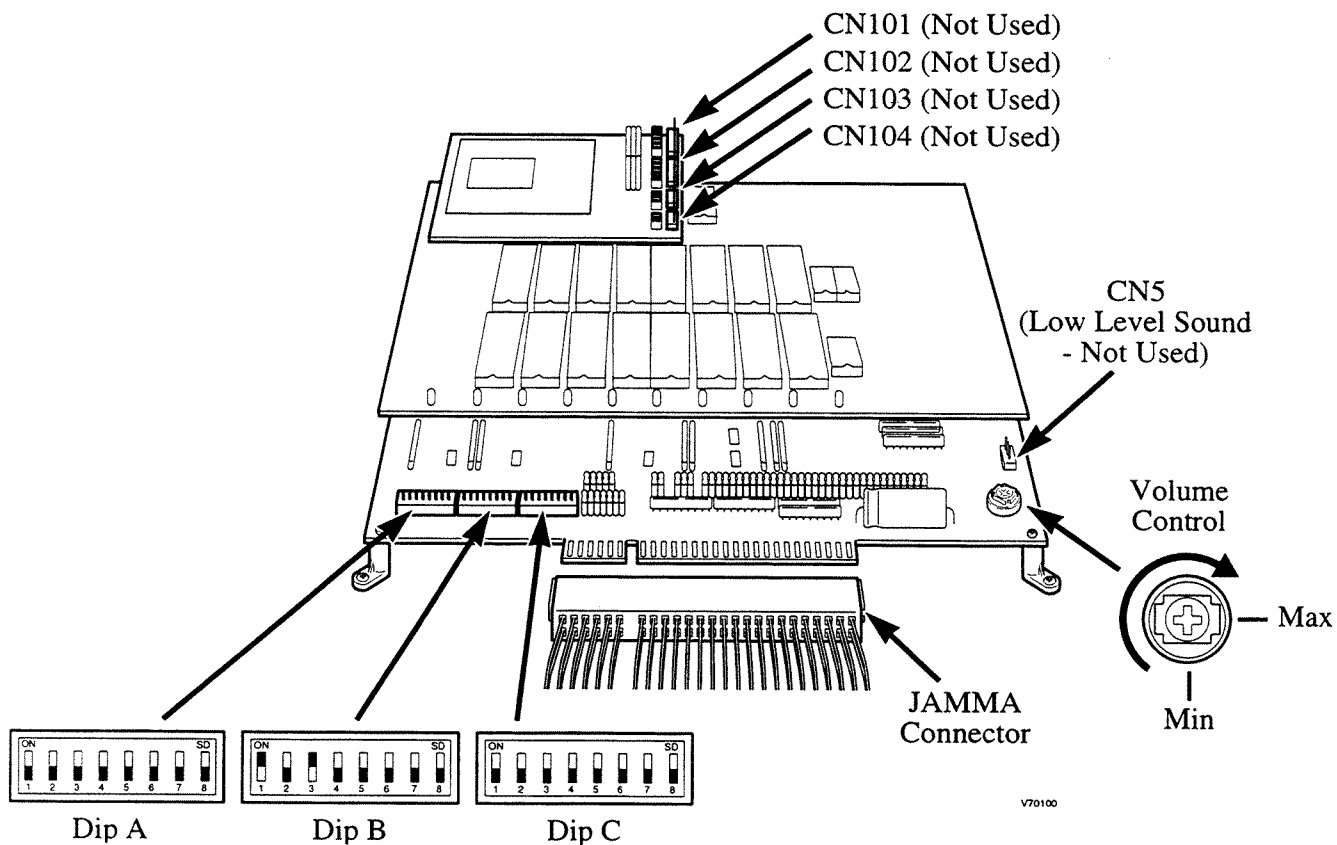

Figure 8: PC Board Wiring & Controls
24. Connect the JAMMA harness connector to the edge connector located on the bottom PC board, as shown in Figure 8 below: